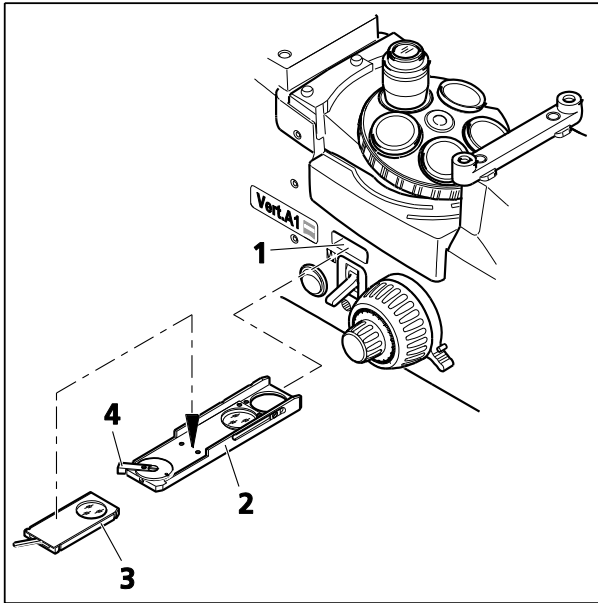

Fig. 4-16 Setting the Polarization
For the purpose of color-contrasting anisotropic materials, compensator Lambda or compensator Lambda Pol sub. $\pm 10^\circ$ (Fig. 4-16/3) may be used. To do so, place the compensator on the analyzer.
For the purpose of color-contrasting anisotropic materials, compensator Lambda Pol sub. $\pm 10^\circ$ (Fig. 4-16/3) may be used in addition to compensator Lambda. To do so, place the compensator on the analyzer.
- Insert the analyzer slider (Fig. 4-16/2) into the slot (Fig. 4-16/1) under the reflector turret. The analyzer can be rotated 90 degrees.
- Use the analyzer turning lever to cross the vibration direction of the analyzer and polarizer (Fig. 4-16/4) (dark position).